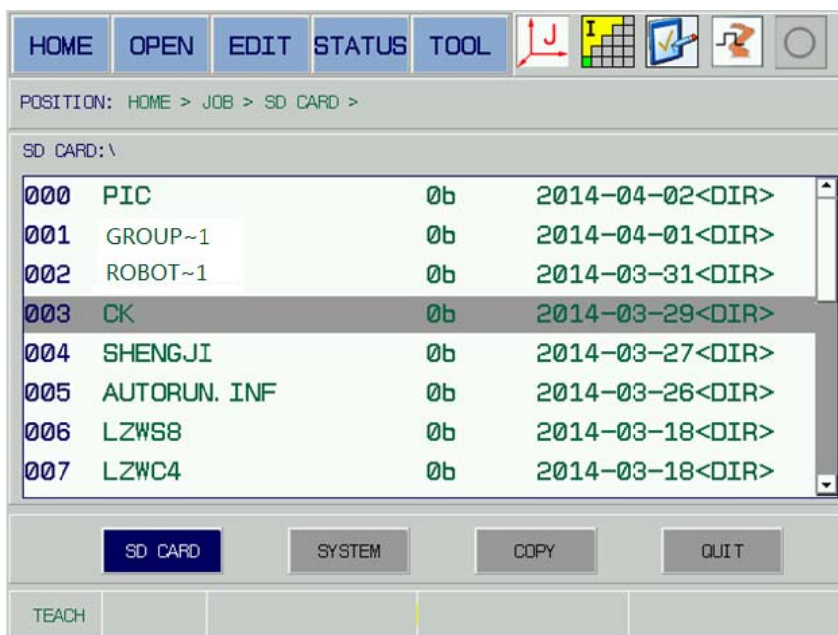

Fig. 5-25
3. Move the cursor to [U disk] button by [TAB] and left/right buttons, then open the U disk by [SELECT]; refer to Fig. 5-25.